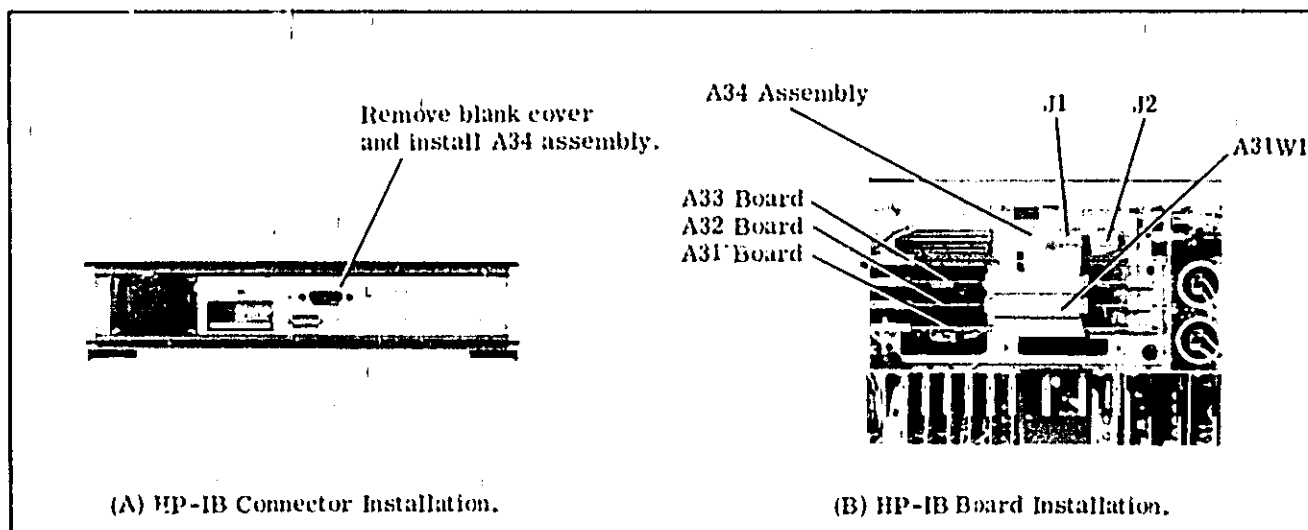

Figure 2-4. OPT. 101 Installation in 4271B.
- a. Replace blank panel at rear panel with A34 Connector Ass'y (P/N: 04271-66554) as shown in Figure 2-4(a).
- c. Insert A31, A32 and A33 into specified option sockets as shown in Figure 2-4(b).